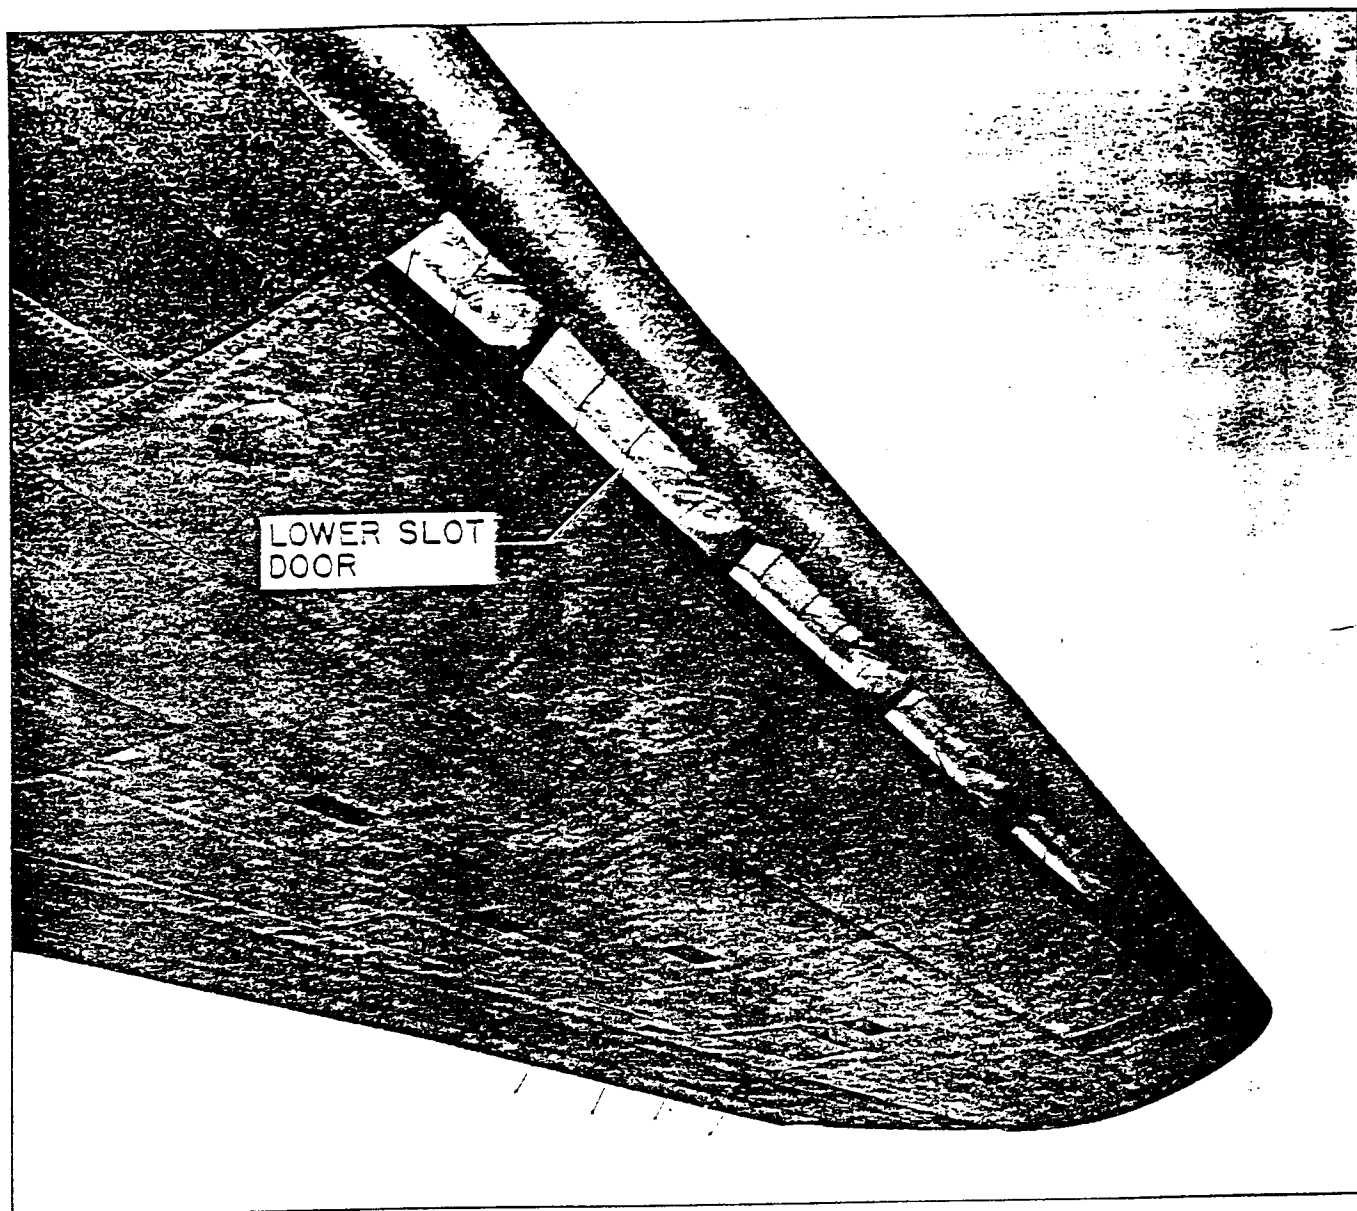

Figure 7. Wing Slots
(2) INSTALLATION.- Reverse the removal procedure. See Section IV, paragraph 3 for information necessary to rig the rudder cables.
f. WING SLOT AND DOORS. (See figure 7.)- The wing slots are of the internal leading edge type, provided with an upper and lower door. The doors are held open automatically while the airplane is resting on the ground.
(1) REMOVAL.